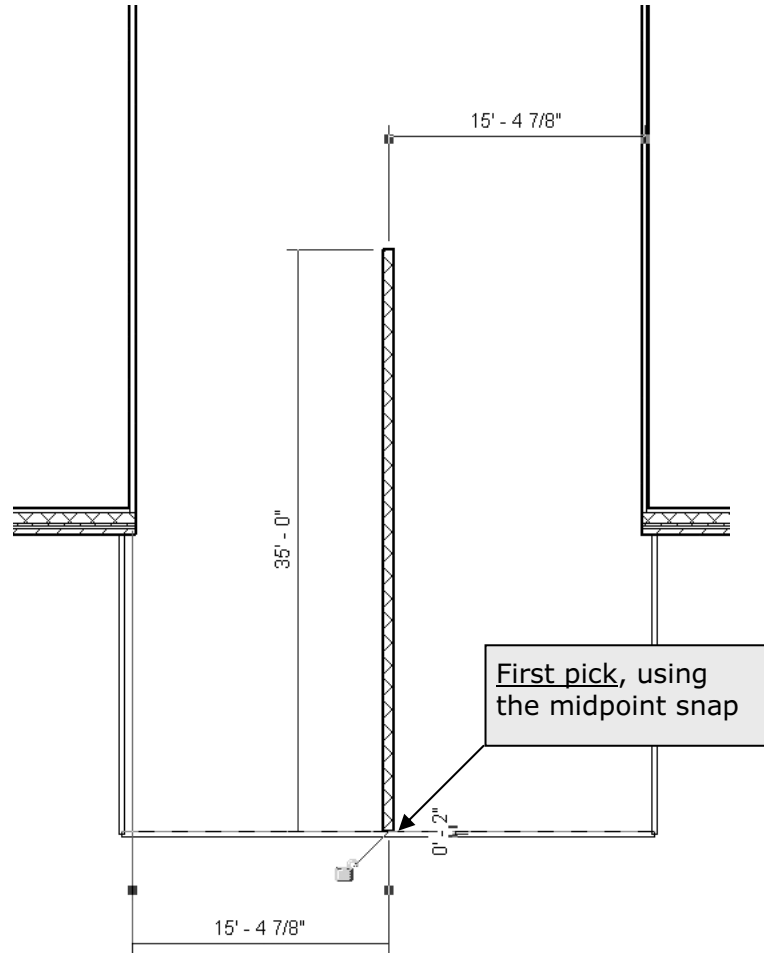

Figure 3-3.3 Temp. wall
9. Draw the vertical wall shown in Figure 3-3.3; be sure to snap to the *Midpoint* of the atrium wall as your first point.